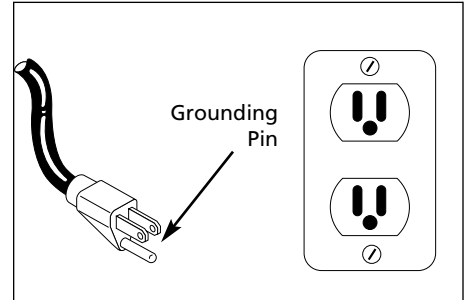

Figure 2 - Grounding Plug
3. This product is for use on a nominal 120-volt circuit and has a grounding plug that looks like the plug in Figure 2. Make sure that the product is connected to an outlet having the same configuration as the plug. No adapters should be used with this product.